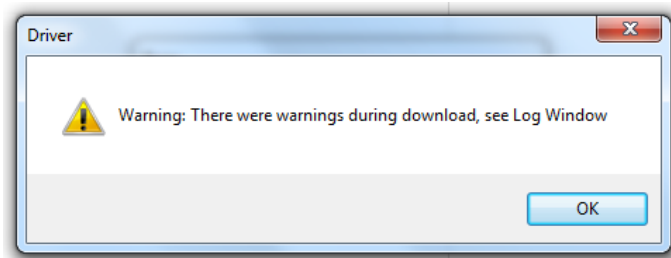

Figure 7. Prompt to alert debug information not matching
4. Click  “Download and debug” button on debug control panel. Ignore the prompt warning window shown in Figure 7.